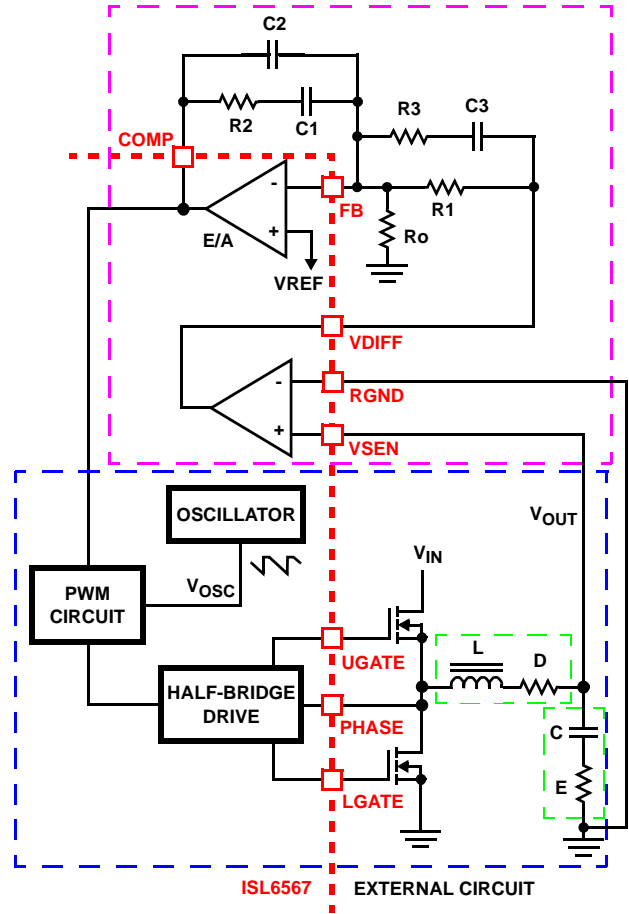

FIGURE 24. VOLTAGE-MODE BUCK CONVERTER COMPENSATION DESIGN
Figure 24 highlights the voltage-mode control loop for a synchronous-rectified buck converter, applicable, with a small number of adjustments, to the multi-phase ISL6567 circuit. The output voltage (V_{OUT}) is regulated to the reference voltage, V_{REF} , level. The error amplifier output (COMP pin voltage) is compared with the oscillator (OSC) modified saw-tooth wave to provide a pulse-width modulated wave with an amplitude of V_{IN} at the PHASE node. The PWM wave is smoothed by the output filter (L and C). The output filter capacitor bank's equivalent series resistance is represented by the series resistor E.
1. Select a value for R₁ (1kΩ to 5kΩ, typically). Calculate value for R₂ for desired converter bandwidth (F₀). If setting the output voltage via an offset resistor connected to the FB pin, R_O in Figure 24, the design procedure can be followed as presented. However, when setting the output voltage via a resistor divider placed at the input of the differential amplifier, in order to compensate for the attenuation introduced by the resistor divider, the obtained R₂ value needs be multiplied by a factor of (R_P+R_S)/R_P. The remainder of the calculations remain unchanged, as long as the compensated R₂ value is used.